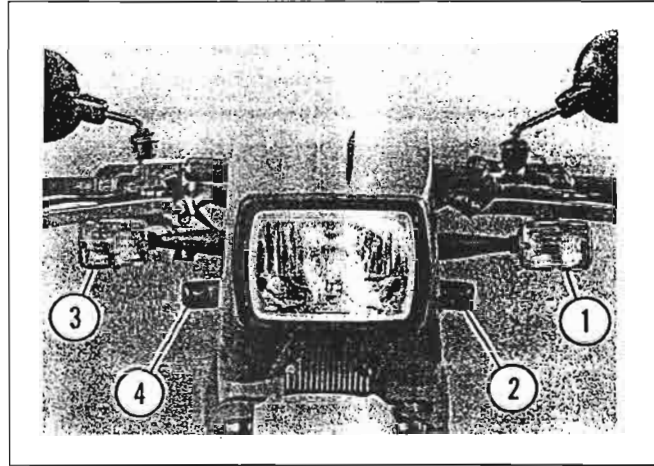

Figure 2-19. Turn Signal Lamps
See Figure 2-19. Set ignition switch ON. Move turn signal switch to left and check that left front turn signal lamp (1), left rear turn signal lamp (2), and left turn indicator lamp on instrument panel flash simultaneously. Move turn signal switch to right and check that front right turn signal lamp (3), right rear turn signal lamp (4), and right turn indicator lamp on instrument panel flash simultaneously.